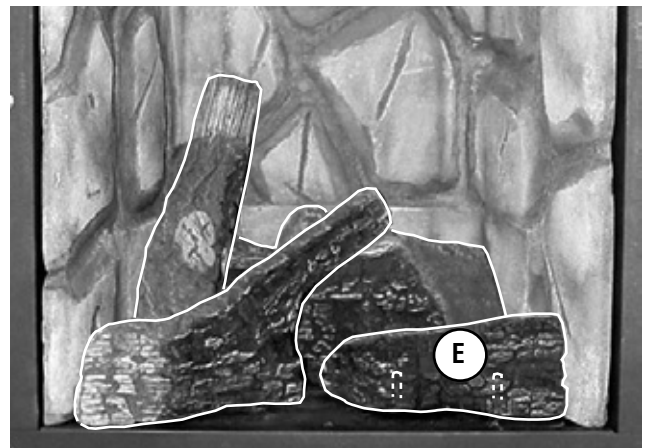

Figure 47 - Install Right Front Log (E)
4. Place the right front log (E) as shown in Figure 47. Position the hole on the bottom of log E over pins #4 and #5.